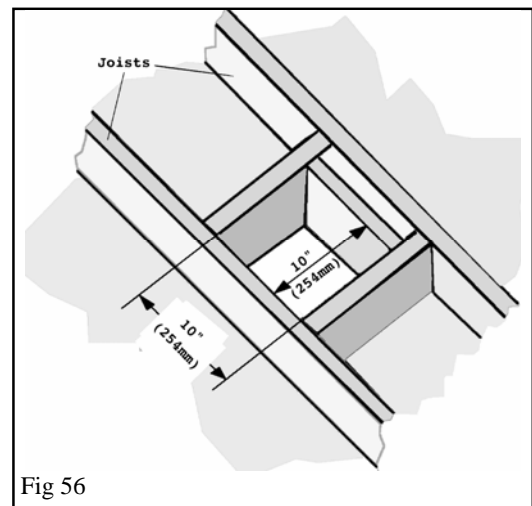

Fig 56
8. A ceiling firestop must be installed at the second floor and higher floors. A ceiling support should be used below the flat ceiling. To install the firestop & support cut and frame a 10" (254mm) square hole centered on the small hole previously drilled - see fig. 56.